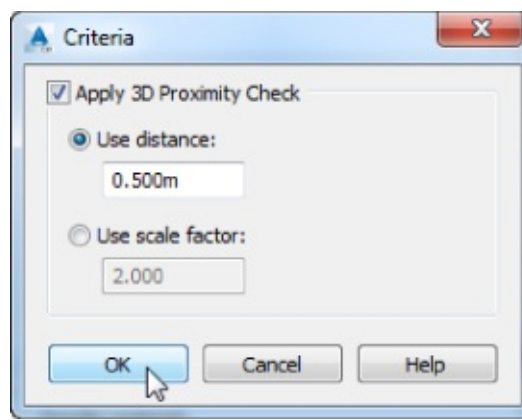

Figure 13.68 Criteria for the 3D proximity check
5. Click the 3D Proximity Check Criteria button, and the Criteria dialog will appear (see Figure 13.68).